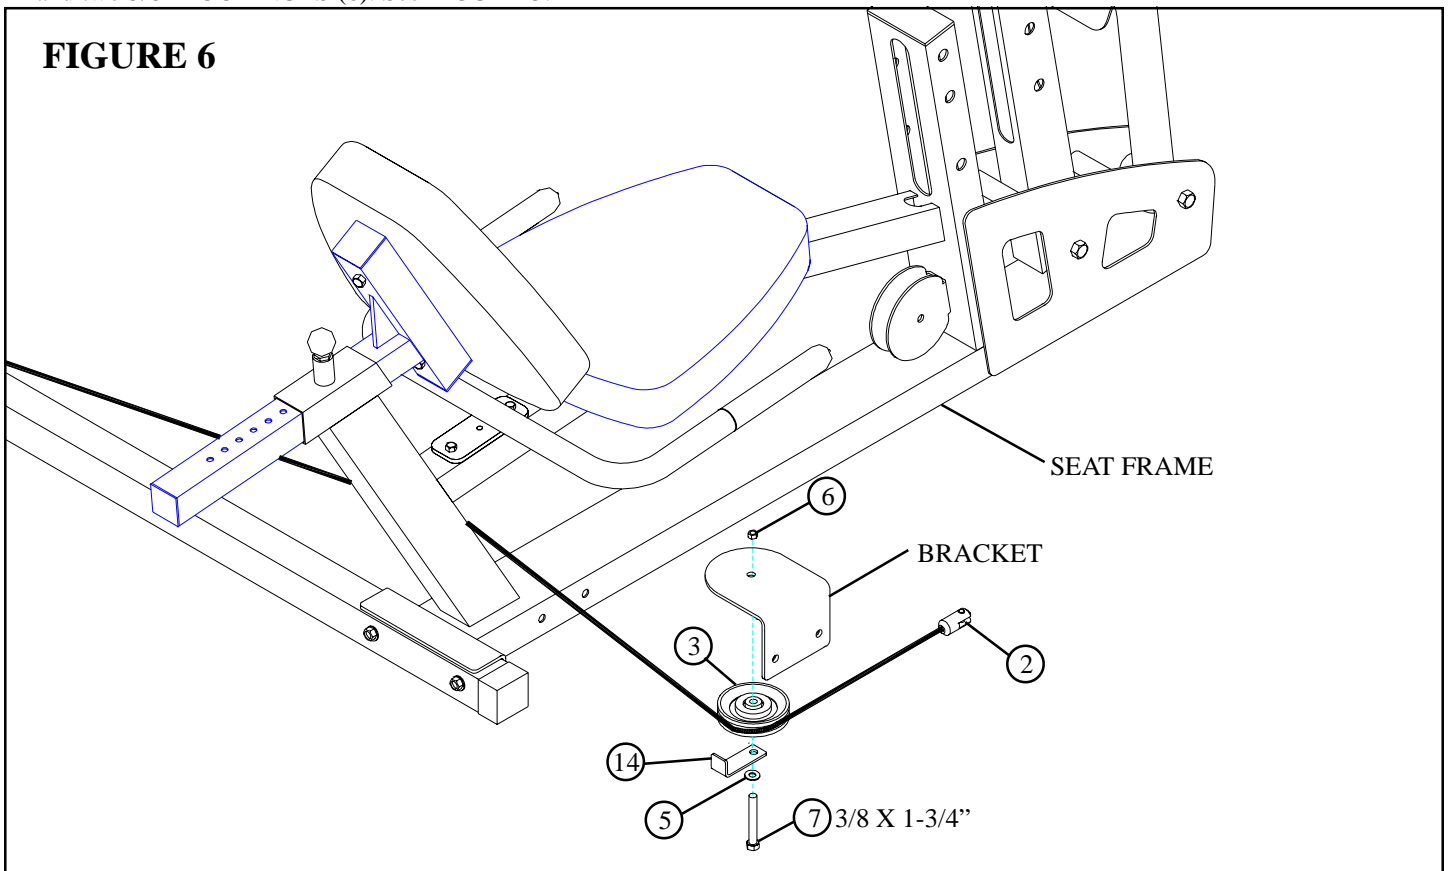

**FIGURE 5**
- **SECURELY** attach the 100 LEG PRESS to the FRONT LEG (1) using two 3/8" X 2-3/4" BOLTS (8), two 3/8" WASHERS (5), and two 3/8" LOCK NUTS (6). See FIGURE 5.